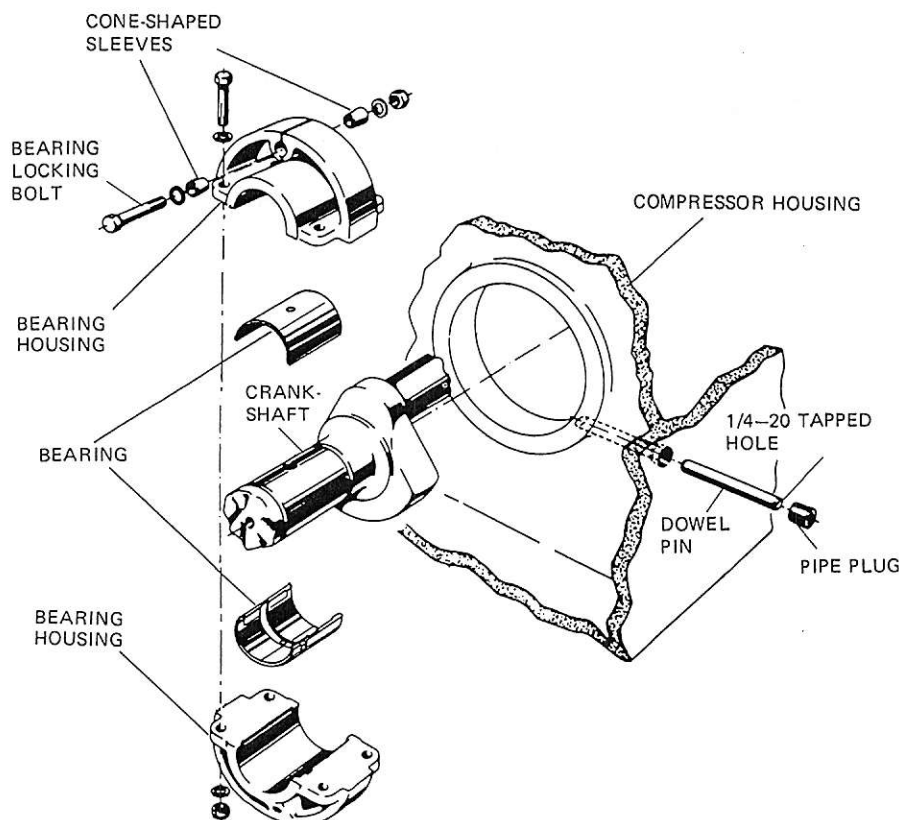

FIG. 41 — CENTER MAIN BEARING — 12 & 16 CYLINDER COMPRESSORS
CENTER MAIN BEARING — 12 AND 16 CYLINDER MODELS (See Fig. 41)
4. Remove the center main bearing dowel pin. This pin is provided with a hole tapped $1/4'' - 20$ for inserting a threaded rod about 10'' long for the purpose of pulling out the dowel pin. Note that a pipe plug is inserted in the dowel pin hole from the outside of the compressor housing — this plug must be removed to gain access to the dowel pin. (See Fig. 41).